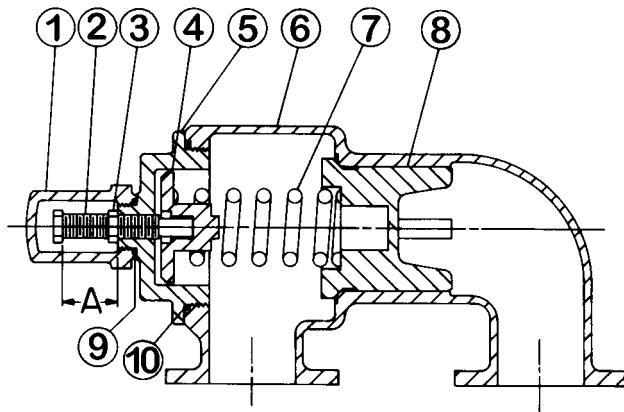

FIGURE 19
2. Measure and record the length of extension of adjusting screw. Refer to "A" on Figure 19.